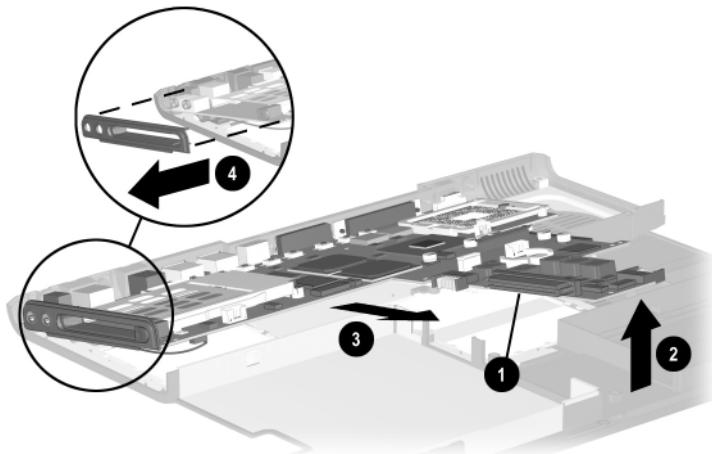

Figure 5-35. Removing the System Board
7. Use the MultiBay connector ① to lift ② the front of the system board until the board rests at an angle (Figure 5-35).
8. Slide the system board forward at an angle ③ and remove it from the base enclosure.
9. Remove the PC Card bezel ④ from the system board.